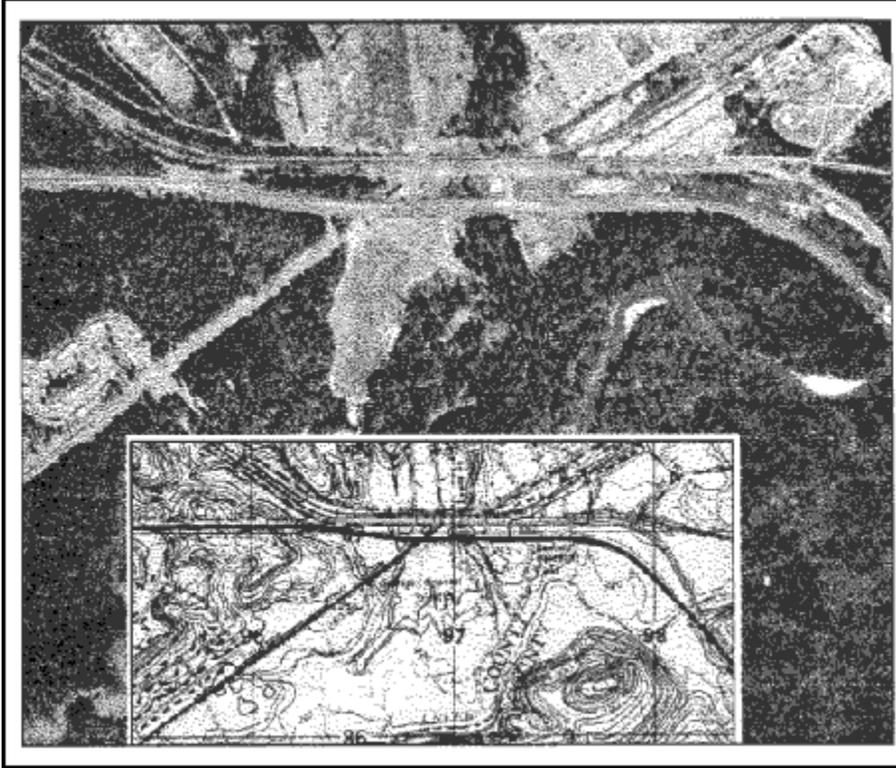

Figure 11. Terrain association.
b. **Using Terrain Association.** A map can be oriented by terrain association when a compass is not available or when the user has to make many quick references as he moves across country. Using this method requires careful examination of the map and the ground, and the user must know his approximate location (Figure 11).